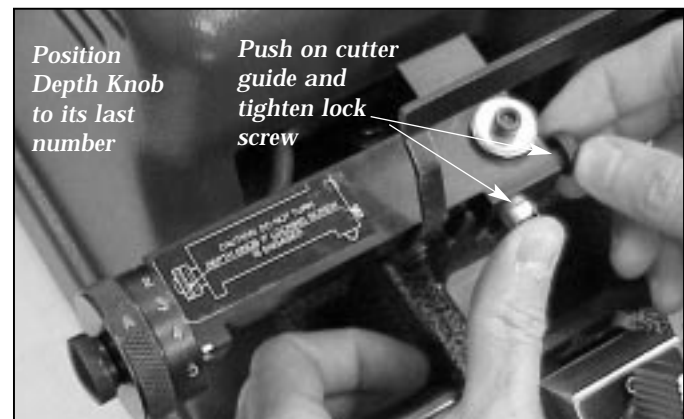

Figure 15
3. **IMPORTANT:** Press in on the cutter guide until it stops and tighten the cutter guide lock screw (see Fig. 15).